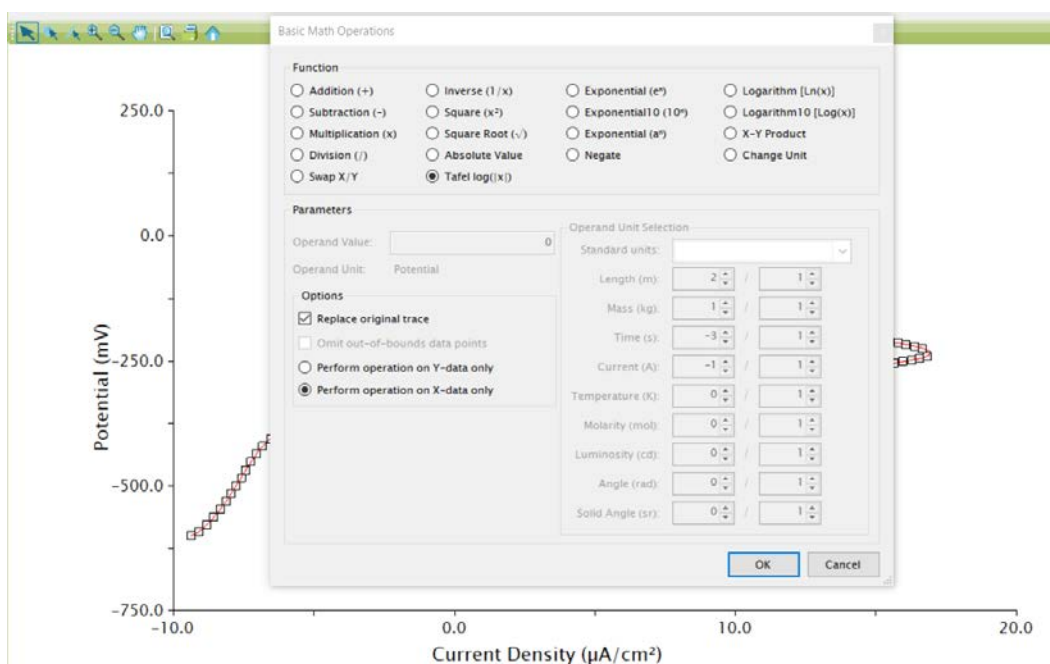

Figure 2-6. Use of Basic Math Operations to Transform Plot to Tafel Convention
1. Right click the LSV data on the plot and choose *Apply Transform* → *Basic Math Operations...* (see: Figure 2-6).